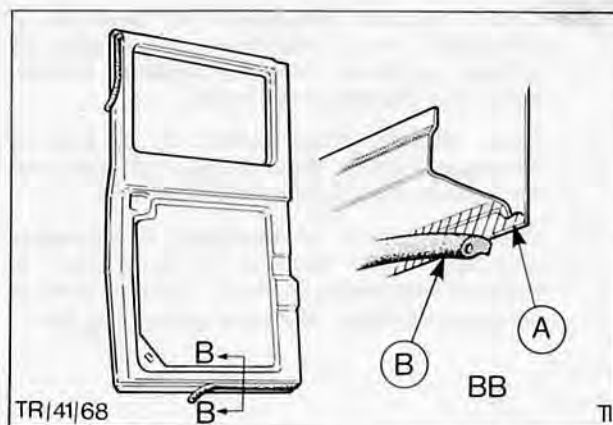

Fig. 56. Weatherstrip to door
3. Using adhesive to SQM-269101-A, or a similar alternative, brush coat a film of adhesive around periphery of door in area of weatherstrip and along door flange, Fig. 56 'A'.